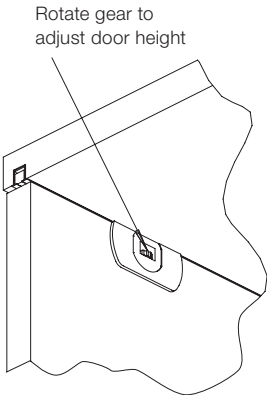

Figure 7
6. (If required) The doors can be leveled using the gear mechanism on the running gears which provides 1/8" of adjustment up and down for a total of 1/4" adjustability. (Fig.7)